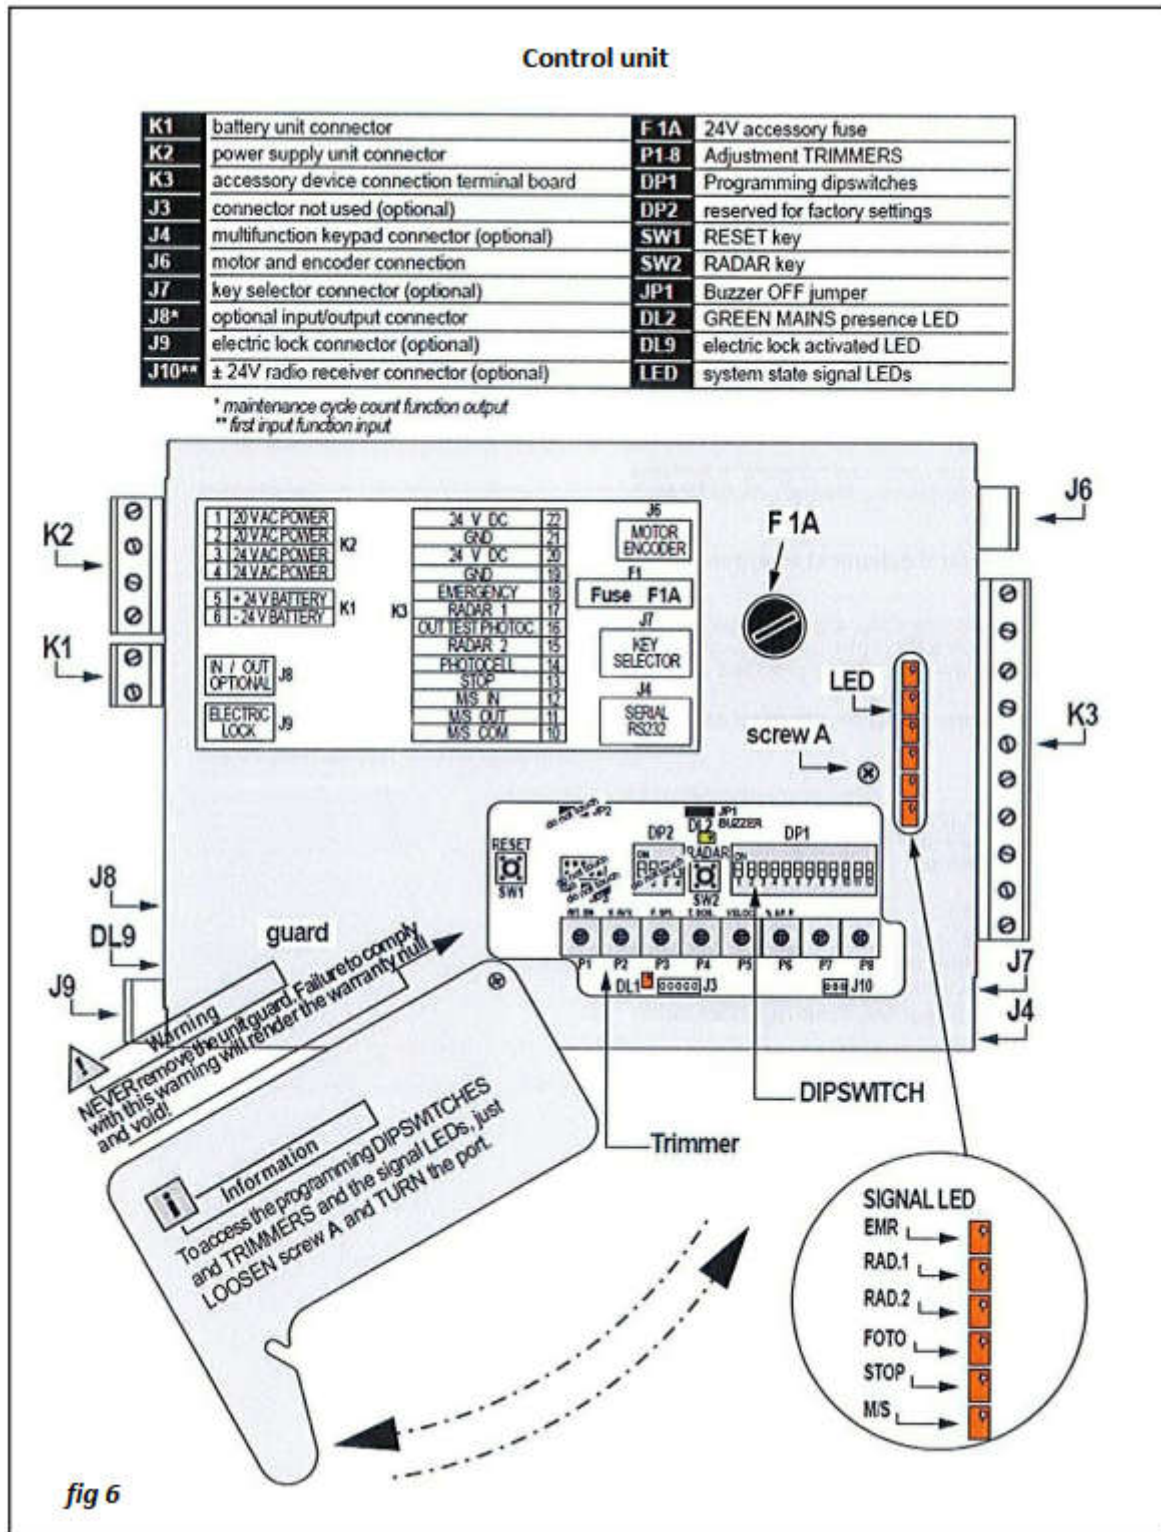

Figure 6.
The control unit consists of the electronic control CARD, secured to an extruded aluminium profile which acts as SUPPORT to secure it to the Automation Module. The card is protected by a guard which has a port for accessing the programming and signal devices while the terminal boards and connectors are directly accessible at the sides (fig.6).
- 2 Insert the Selector connector in J7 on the CONTROL card (fig.6).